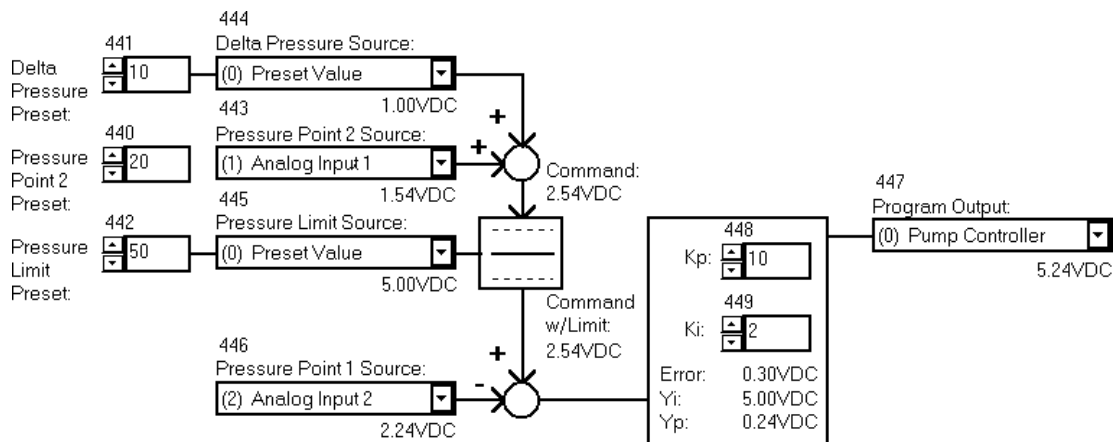

Figure 7: Load Sense Program
Example: Figure 7 shows Program 5 Form for Load Sense. The Delta Pressure Source is set to the Delta Pressure Preset Value of 10% (program item 444=0 and program item 441=10). The Pressure Point 2 Source is Analog Input 1 (program item 443=1), therefore the command is $1.00V + 1.54V = 2.54V$.